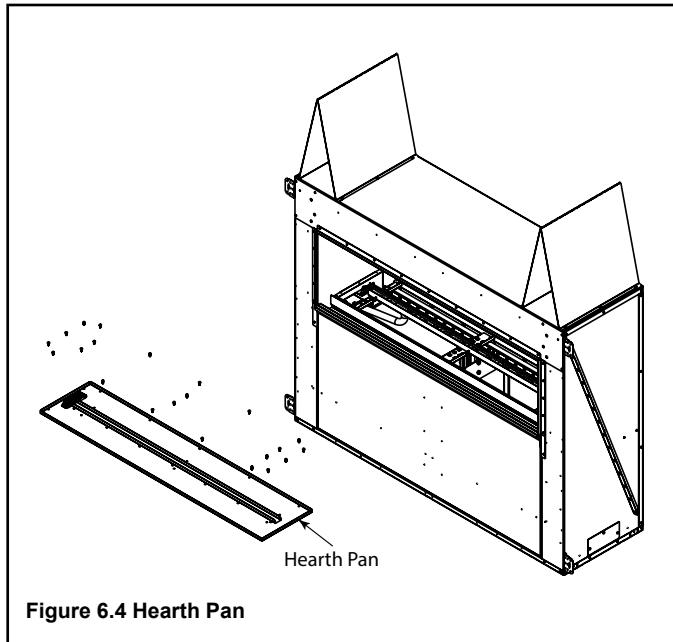

Figure 6.4 Hearth Pan
- Lift and remove hearth pan, set aside. See Figure 6.4.